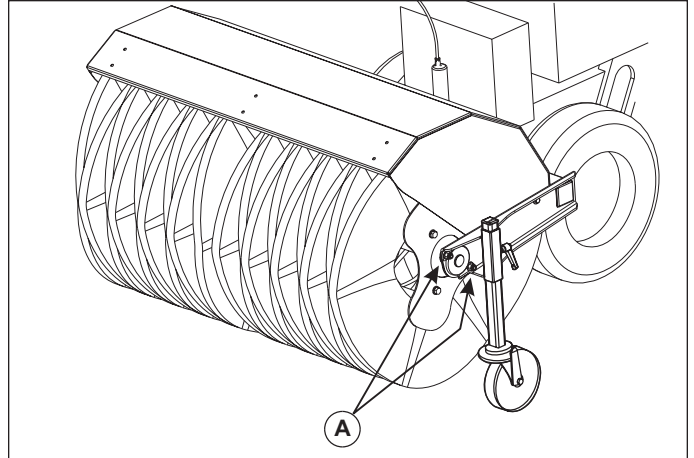

Figure 20. Brush Removal
1. Remove bolts from broom bearings at both ends of the support shaft (A, Figure 20).